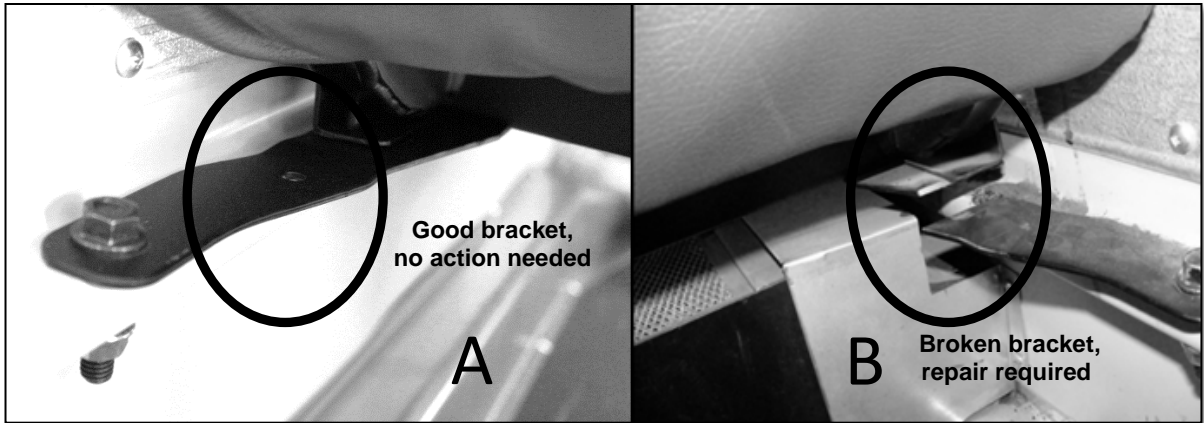

Figure 3
2. Is the bracket intact? Is the bracket cracked or broken? See **Figure 3, Items A and B.**